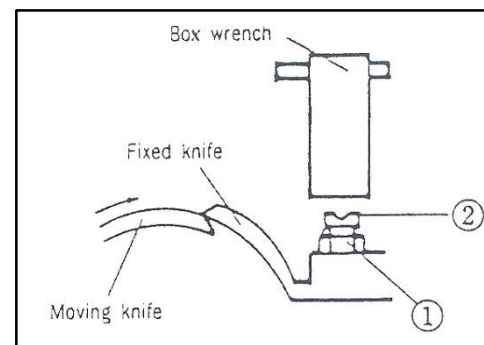

Figure 7.17
Release the tension adjusting nut (1) with a box spanner and release the tension adjusting screw (2). As shown in Fig. 7.17 push the moving knife towards the fixed knife until its blade point meets the fixed knife point. Tighten the fixed knife tension adjusting screw (2) until the two blades touch without force. Tighten the tension adjusting nut (1).